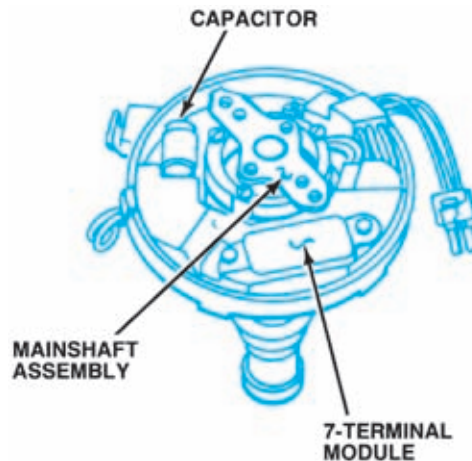

Figure 4-34. The capacitor attached to a GM HEI ignition module protects the module from EMI.
- Across the primary circuit of some electronic ignition modules (Figure 4-34)